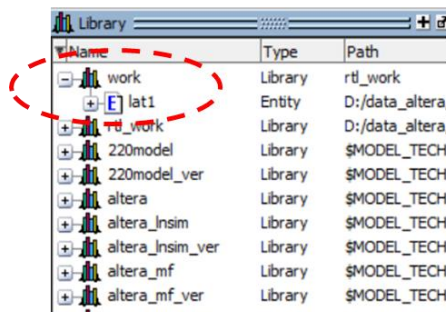

Figure 15. Displaying the design name in the work project
2. Click the (+) sign in the Library so that lat1 appears as shown in Figure 15.